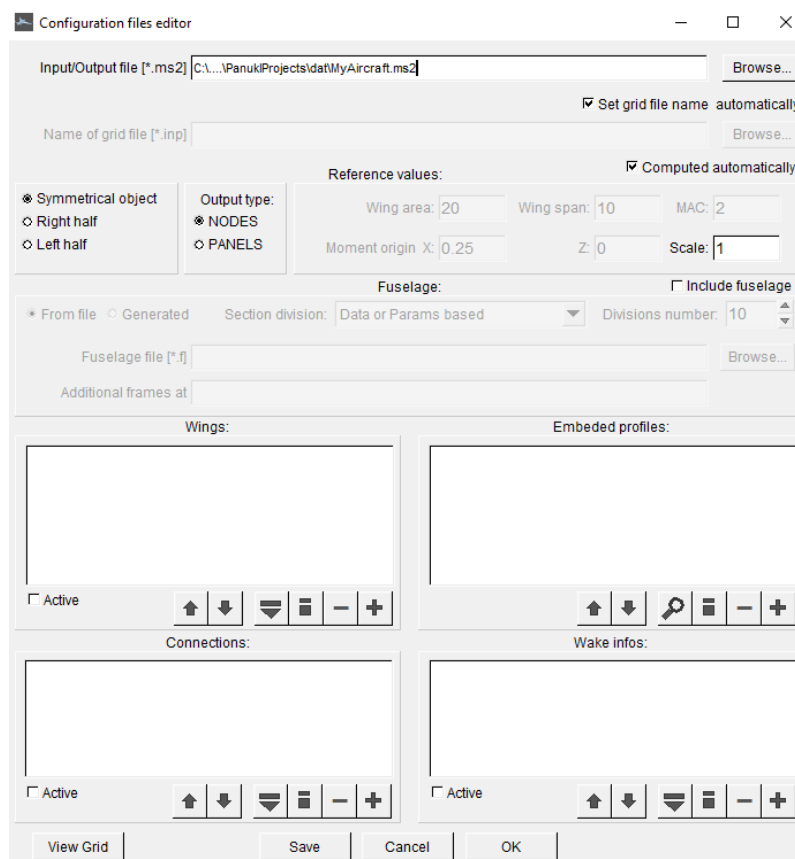

Fig. 3 MS2 editor
- Using the geometry description by a superellipse is recommended to generate a fuselage geometry. To open the window to generate fuselage geometry definition follow the instruction: at fuselage section in MS2 editor mark *including fuselage*, next select *generate*, then click button *edit* (see Fig. 3). Detailed information about superellipse's parameters you can find in the PANUKL user manual (data, configuration and output files section) on page 11-12;